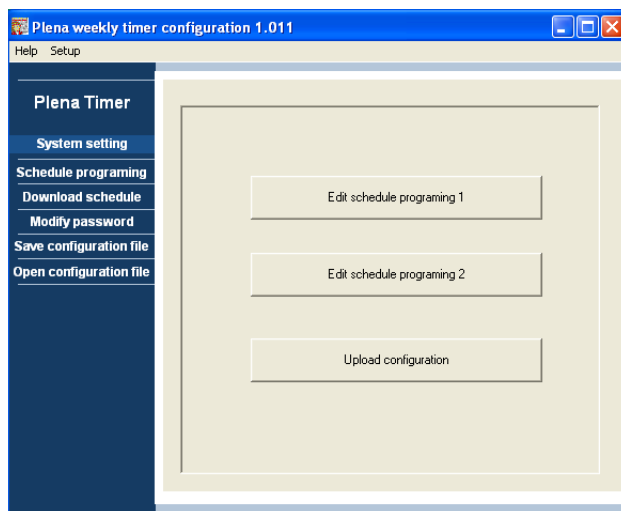

figure 8.13: Programming and upload buttons
- 1 From the main menu, click the Schedule programming button. The following window will appear (see figure 8.13).